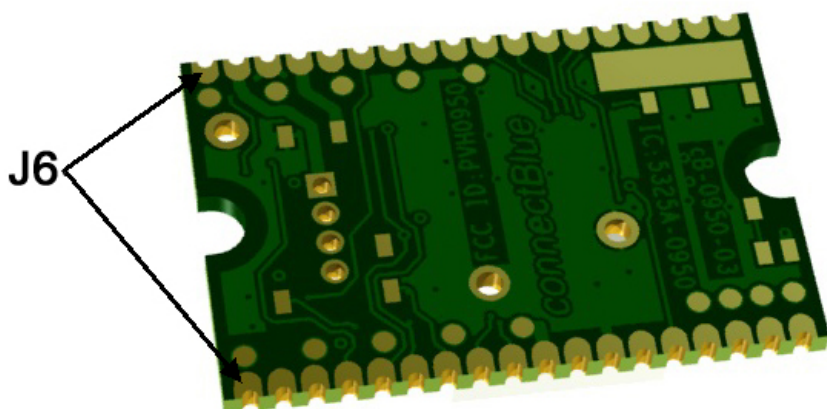

Figure 3: The solder pads J6 are available on the long edges of the bottom side of the PCB.
- Via the PCB solder pads on the edge of the PCB, J6 (see Figure 3). See Section "Using the J6 PCB solder pads" for more information.